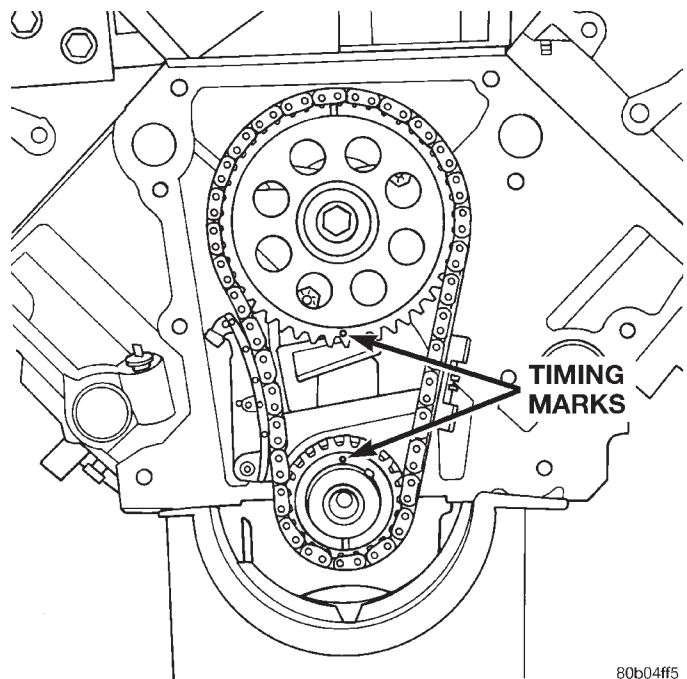
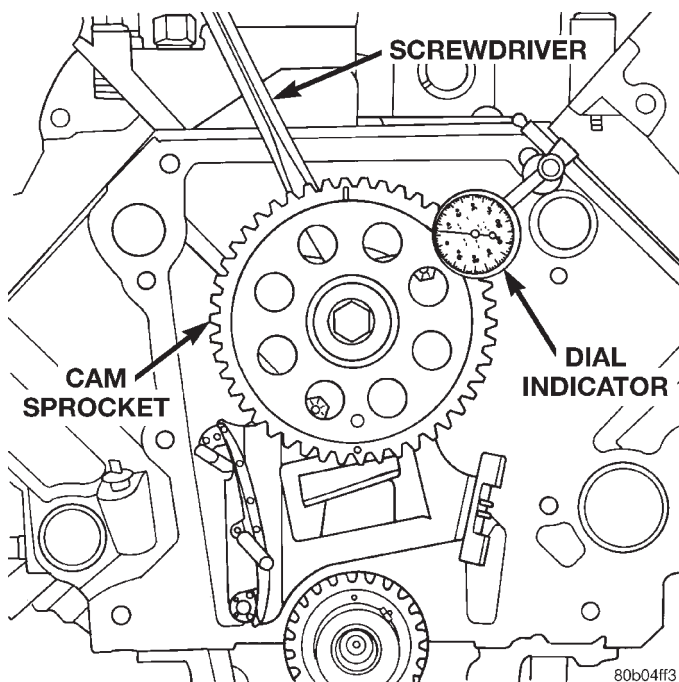

Fig. 34 Alignment of Timing Marks
Fig. 35 Checking Camshaft End Play
- (1) Disconnect battery negative cable.
- (2) Drain cooling system. Refer to Group 7, Cooling for the correct procedure.
- (3) Remove radiator.
- (4) Remove intake manifold. Refer to Group 11, Exhaust System and Intake Manifold for the correct procedures.
- (5) Remove distributor assembly. Refer to Group 8D, Ignition Systems for the correct procedure.
- (6) Remove cylinder head covers.
- (7) Remove rocker arms.
- (8) Remove push rods and tappets. Identify each part so it can be installed in the original locations.
- (9) Remove timing chain cover. Refer to procedure in this group.
- (10) Align timing marks (Fig. 34) and remove timing chain and sprockets.
- (11) Remove the three tensioner to block mounting bolts and remove tensioner.
- (12) Install a long bolt into front of camshaft to facilitate removal of the camshaft. Remove camshaft, being careful not to damage cam bearings with the cam lobes.
(6) Place both camshaft sprocket and crankshaft sprocket on the bench with timing marks on an exact imaginary center line through both camshaft and crankshaft bores.
(7) Place timing chain around both sprockets.
(8) Turn crankshaft and camshaft to line up with keyway location in crankshaft sprocket and in camshaft sprocket.
(9) Lift sprockets and chain (keep sprockets tight against the chain in position as described).
(10) Slide both sprockets evenly over their respective shafts and use a straightedge to check alignment of timing marks (Fig. 34).
(11) Install the camshaft bolt/cup washer. Tighten bolt to 68 N·m (50 ft. lbs.) torque.
(12) Measure camshaft end play (Fig. 35). Refer to Specifications for proper clearance. If not within limits, install a new timing chain tensioner.
(13) Each tappet reused must be installed in the same position at which it was removed. **When camshaft is replaced, all of the tappets must be replaced.**
(14) Install timing chain cover
(15) Install intake manifold. Refer to Group 11, Exhaust System and Intake Manifold for the correct procedure.
(16) Install distributor. Refer to Group 8D, Ignition System for the correct procedure.
(17) Install cylinder head covers.
(18) Install radiator.
(19) Fill cooling system. Refer to Group 7, Cooling System for the correct procedure.
(20) Connect battery negative cable.
(21) Start engine and check for leaks.